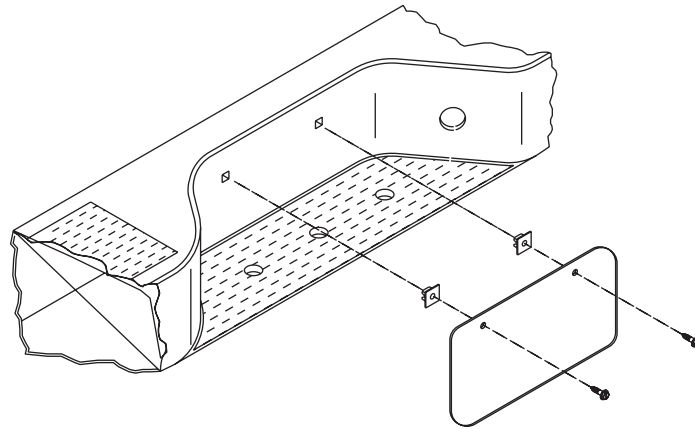

FIGURE 3
STEP 1: USING SQUARE PLASTIC GROMMETS AND SHEET METAL SCREWS, INSTALL LICENSE PLATE. (SEE FIGURE 3).